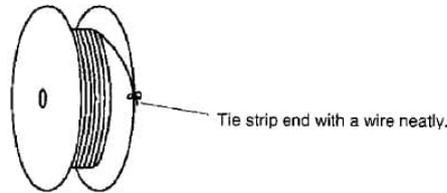

Fig. 2
- (3) Avoid storing the contact reel in a moist or dusty place. Stock the reel in a comparatively dry and clean place (5~34 °C, 45~85%RH) away from direct sunlight.
- (4) When removing the contact reel from the machine, fasten the end of the contact strip onto the edge of the reel with use of proper string or wire. (Fig.2)